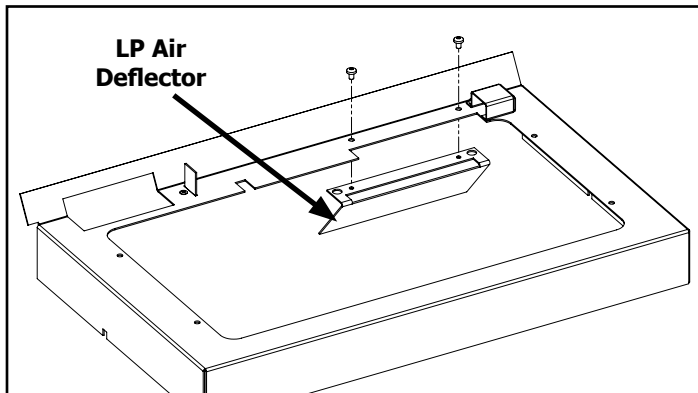

Figure 25. LP Air Deflector Installation
- d) **LP Conversions Only:** Install the supplied steel air deflector onto the burner tray as shown below (Figure 25) using a T20 screwdriver.